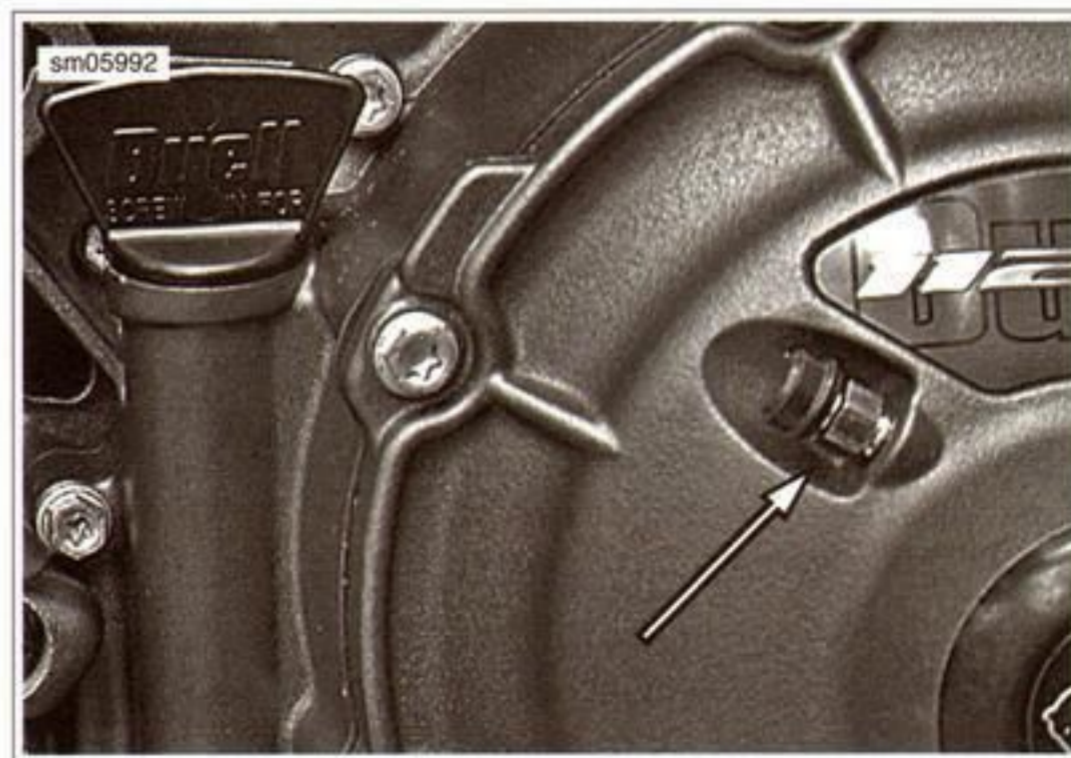

Figure 1-16. Clutch Fluid Bleeder Valve
- d. See Figure 1-16. Loosen secondary clutch actuator bleeder valve.